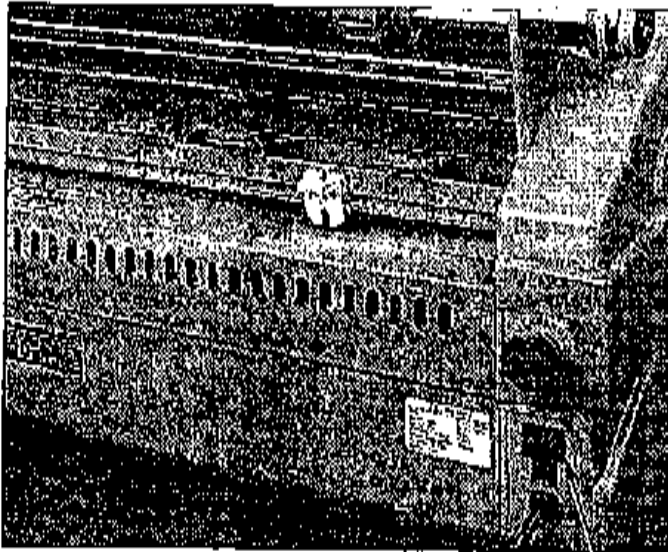

Fig. 7
1. Turn the laminator on (I) at the main power switch located at the back of the machine (Figure 7).
4. Do not begin laminating until the READY LCD illuminates. The normal warm-up time is approximately ten (10) minutes.
10. If the unit is not used for more than three (3) hours it will go into STAND BY and reduce the heat to 180°F (82°C) and STAND BY will illuminate. If an additional one (1) hour of nonuse is detected, the unit will shut off completely and STAND BY will begin flashing. To reset the preheat mode press the STAND BY button.